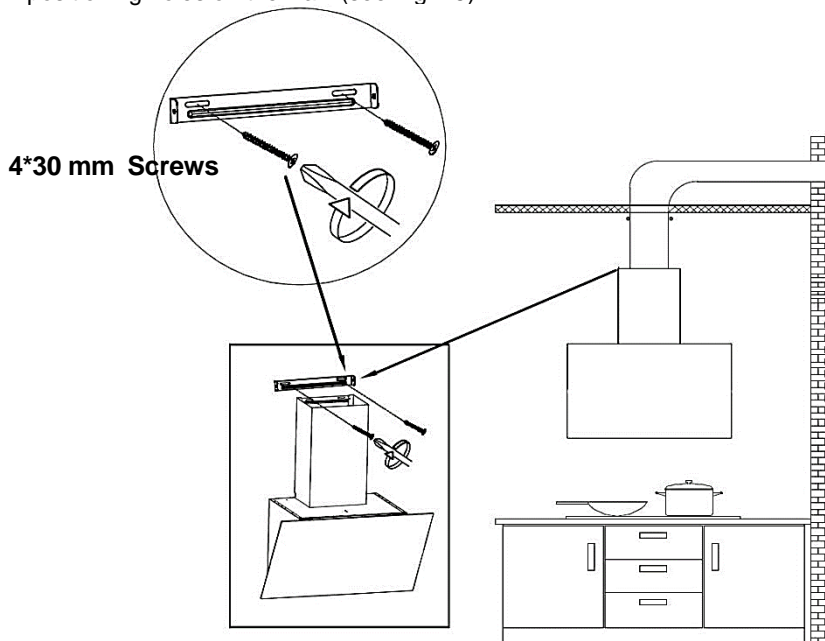

Fig. 15
14. Use two 4*30 mm Screws to lock the Upper Chimney Bracket to the corresponding positioning holes on the wall. (see Fig. 15)